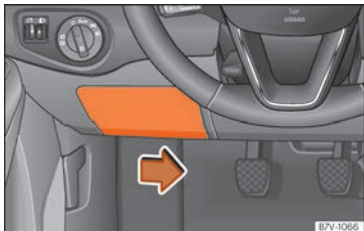

Fig. 61 On the dashboard on the driver side: lid of the fuse box.
- To remove the cover, move the activation lever in the lower part to the right »» Fig. 61.